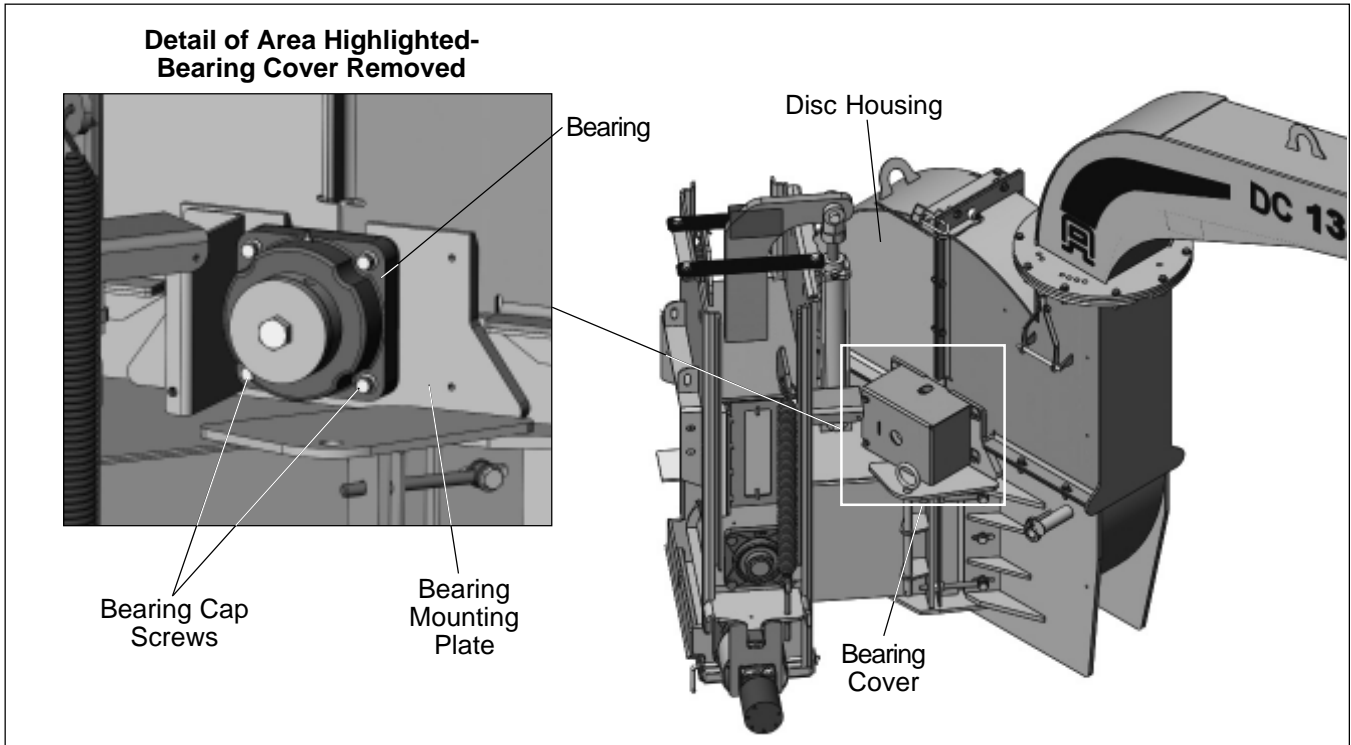

Figure 1 — Bearing Cover Location
2. Look at the disc housing on the side opposite the belt pulley (refer to Figure 1). Remove the cover over the end of the disc shaft.